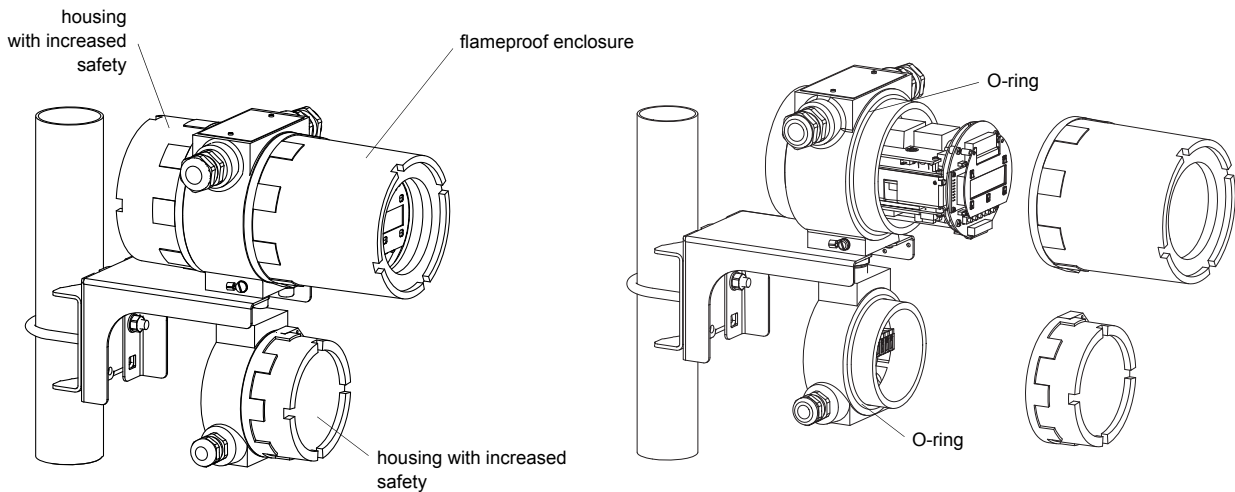

Fig. D.1: FLUXUS ADM 8027
- Check the O-ring when opening the flameproof enclosure housing (FLUXUS ADM 8027, see Fig. D.1, FLUXUS F801, see Fig. D.2).